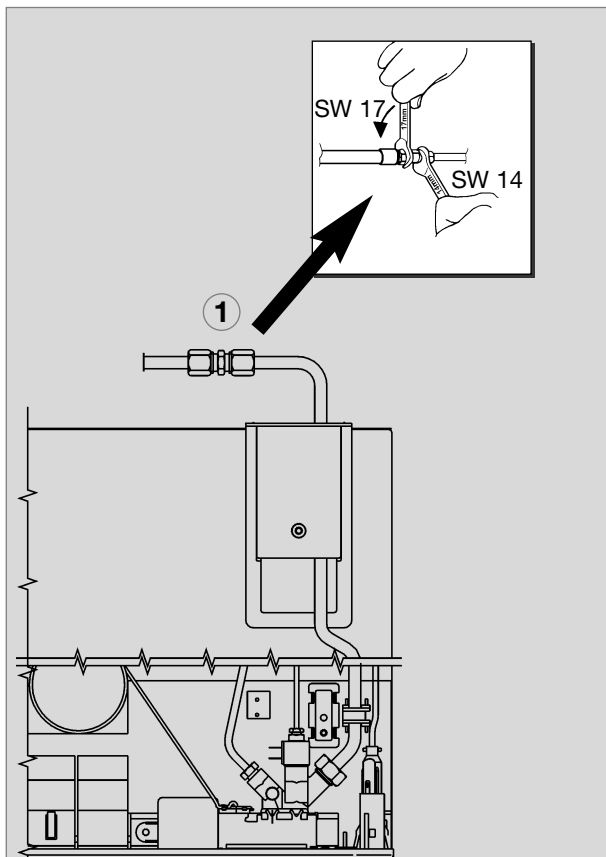

Fig. 37
- The gas connection to the appliance is effected by means of (Ermeto-) olive type fitting L8, DIN 2353-ST, complying with EN 1949 (s. figure 37, 38).